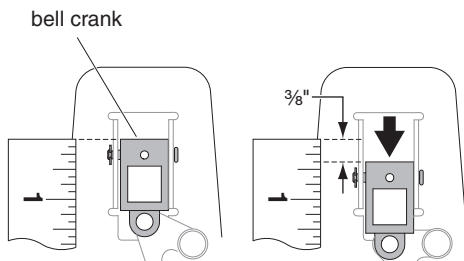

Figure 2
2. Using a ruler, locate the extended position of the bell crank (see Figure 2).
4. Check bell crank travel. Bell crank must be a minimum of 3/8" from extended position and must not run out of travel (see Figure 2).